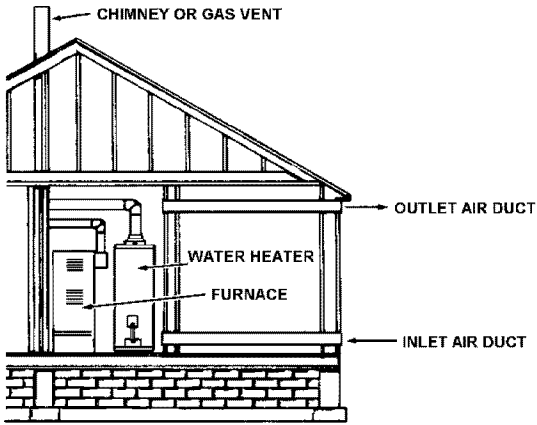

FIGURE 13.
- When communicating with the outdoors through horizontal ducts, each opening shall have a minimum free area of 1 square inch per 2,000 BTU per hour (11 cm2/kW) of total input rating of all equipment in the enclosure. See Figure 13.
- When ducts are used, they shall be of the same cross-sectional area as the free area of the openings to which they connect. The minimum short side dimension of rectangular air ducts shall not be less than 3 inches (7.6 cm). See Figure 13.